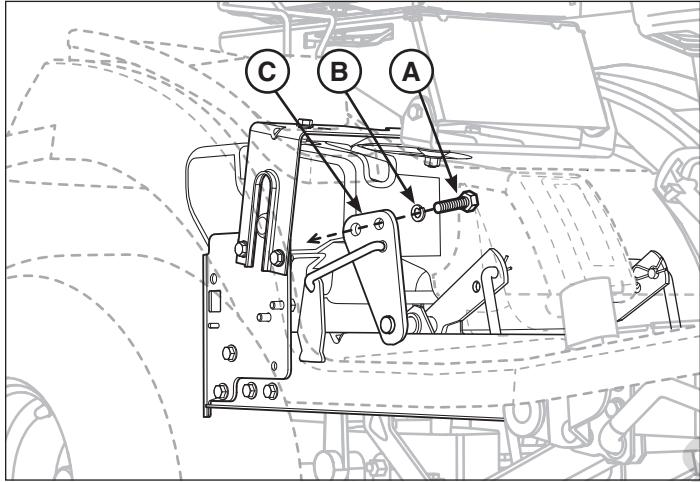

Figure 11
2. Insert .875" cap screw (A, Figure 11), lock washer (B) into top hole of mower lift arm (C).